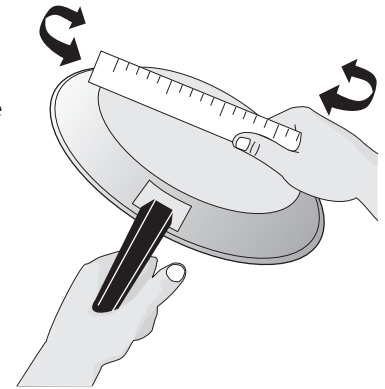
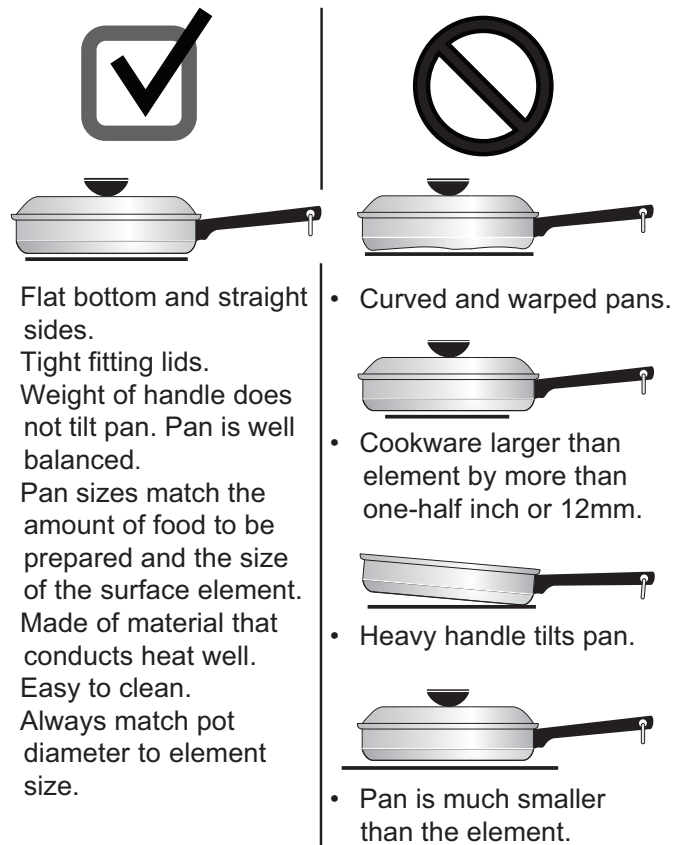

Figure 3: Testing cookware
Figure 4: Proper cookware
Once in place, you may check the fit by gently sliding the burner cap from side to side (Figure 3) to be sure it is centered and firmly seated. When the burner cap lip makes contact inside the center of the burner head you will be able to hear the burner cap click
The size and type of cookware used will influence the heat setting needed for best cooking results. Be sure to follow the recommendations for using proper cookware as illustrated in “Figure 3: Testing cookware” and “Figure 4: Proper cookware”.
Check for flatness by rotating a ruler across the bottom of the cookware (see “Figure 3: Testing cookware”). Cookware should have flat bottoms that make good contact with the entire surface of the heating element
- Make sure the burner grates are properly placed on the cooktop before using the surface burners (Figure 4). The grates are designed to rest inside the recess on the cooktop.